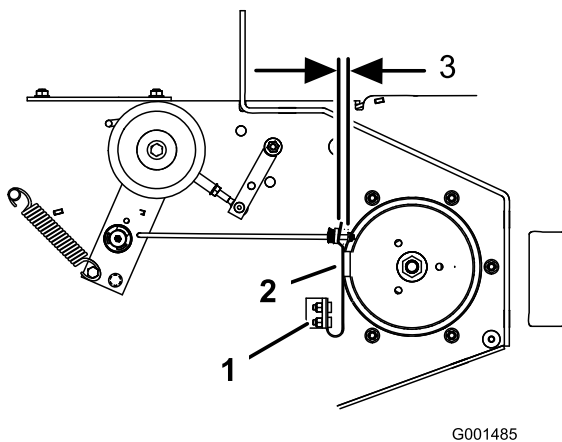

Figure 50
3. If necessary, adjust the spring-mounting bolts so that the blade-brake pad rubs against both sides of the pulley groove (Figure 50).
4. Adjust the nut at the end of the blade brake rod until there is 3 mm to 5 mm (1/8 to 3/16 inch) between the nut and spacer (Figure 50).